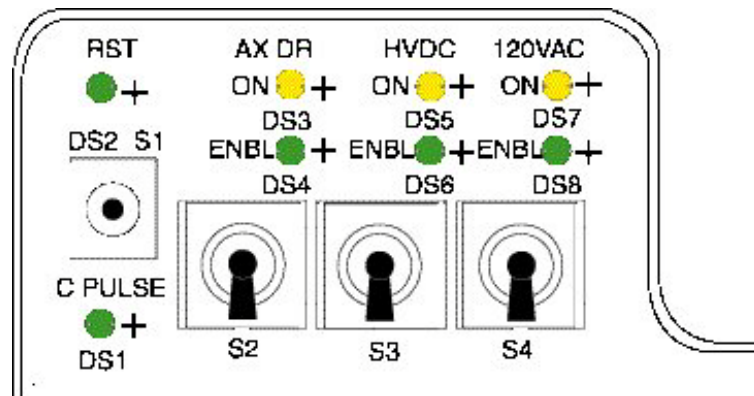

Figure A-10 STC Power Switches
- 3.) Verify the three (3) power switches have been turned **OFF** (see Figure A-10).